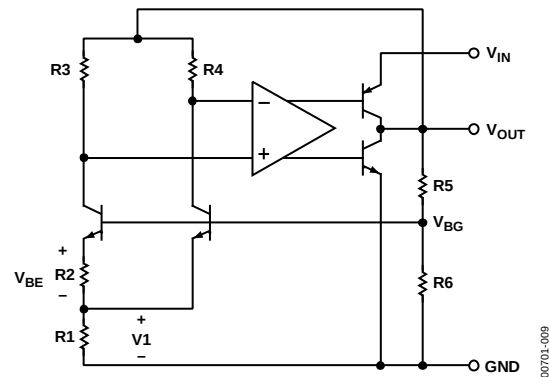

Figure 9. Simplified Schematic
The AD1582/AD1583/AD1584/AD1585 use the band gap concept to produce stable, low temperature coefficient voltage references suitable for high accuracy data acquisition components and systems. These parts of precision references use the underlying temperature characteristics of a silicon transistor's base emitter voltage in the forward-biased operating region. Under this condition, all such transistors have a $-2 \text{ mV}/^{\circ}\text{C}$ temperature coefficient (TC) and a V_{BE} that, when extrapolated to absolute zero, 0 K (with collector current proportional to absolute temperature), approximates the silicon band gap voltage. By summing a voltage that has an equal and opposite temperature coefficient of $2 \text{ mV}/^{\circ}\text{C}$ with the V_{BE} of a forward-biased transistor, an almost 0 TC reference can be developed. In the AD1582/AD1583/AD1584/AD1585 simplified circuit diagram shown in Figure 9, such a compensating voltage, V1, is derived by driving two transistors at different current densities and amplifying the resultant V_{BE} difference (ΔV_{BE} , which has a positive TC). The sum of V_{BE} and V1 (V_{BG}) is then buffered and amplified to produce stable reference voltage outputs of 2.5 V, 3 V, 4.096 V, and 5 V.